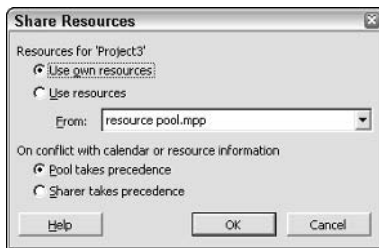

Figure 15-21: The Share Resources dialog box.
3. Choose Tools→Resource Sharing→Share Resources. Project displays the Share Resources dialog box, as shown in Figure 15-21.
3. Select the Use own resources option button in the Share Resources dialog box (refer back to Figure 15-21).